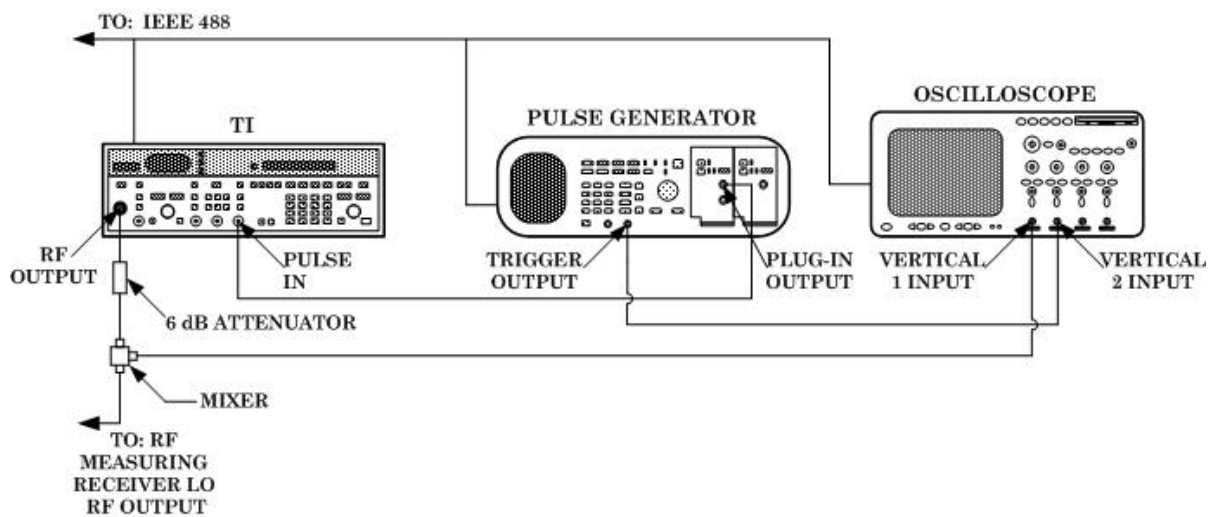

Figure 9. Pulse modulation hookup.
(1) Disconnect cable from local oscillator **RF OUTPUT** connector.
(2) Connect equipment as shown in figure 9.